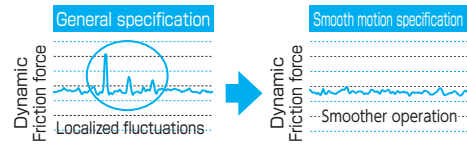

Fig. 11 Image of dynamic friction force of slide
- This optional specification greatly suppresses fluctuations in friction, supporting equipment that requires particularly smooth operation such as measuring instruments. It also delivers in applications where operating characteristics often deteriorate, such as hung on wall or vertical installations (Refer to Fig. 11).